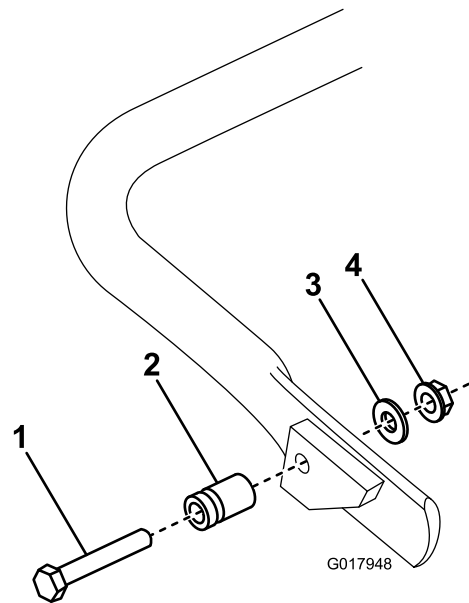

Figure 5
1. **On the GR1600 only**, connect the spring stud to the right hand side of the kickstand (Figure 5) using the bolt, washer, and flange-head nut provided.